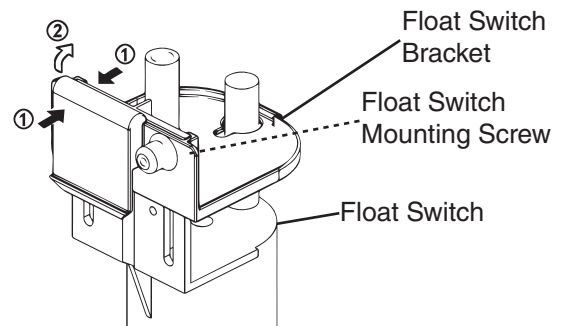

Fig. 6
- 5) Locate the FS behind the pump motor. Next, as shown in Fig. 6 pinch the FS bracket where indicated (1) and pull it forward diagonally (2) to unhook the FS, then remove the screw securing the FS to the bracket.